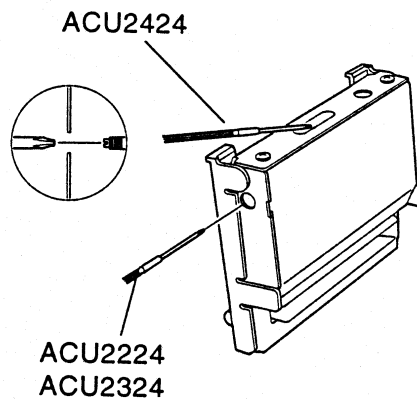

Figure 9-4 Clearing a Paper Jam in the Paper Cutter (1)
- ① Stop the power to the paper cutter and the printer.
- ② Put the printer to the head up state.
- ③ When the blade of the paper cutter is locked and is blocking the outlet of the paper, insert a Phillips screwdriver through the slot as shown in **Figure 9-4** and into the screw in the worm gear of the motor axis. Then, turn the screw until blade retreats.